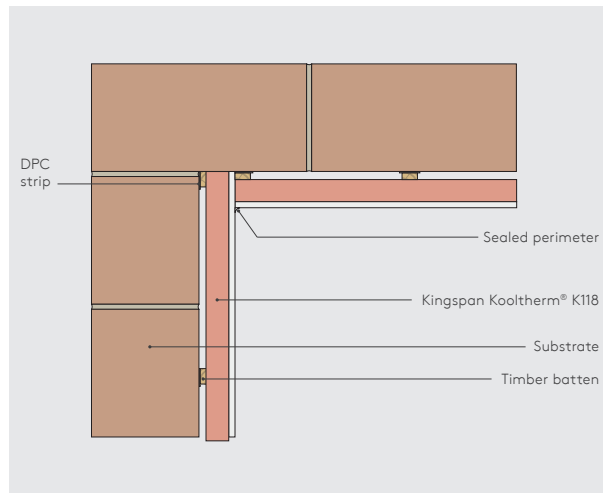

Figure 10: Internal corner detail
- For external corners (including reveals), the lining should run past the corner and the insulating backing of Kingspan Kooltherm® K118 should be cut back to create a junction (see Figures 10 & 12). Boards should be cut and rebated to allow a plasterboard / plasterboard joint at the angle (see Figures 10 & 11).
- Ensure boards are lightly butted and air gaps minimised to reduce the risk of cold bridging (see Figures 10 & 12). Any air gaps should be sealed with flexible sealant or equivalent, or a combination of flexible polyurethane foam and flexible sealant or equivalent.